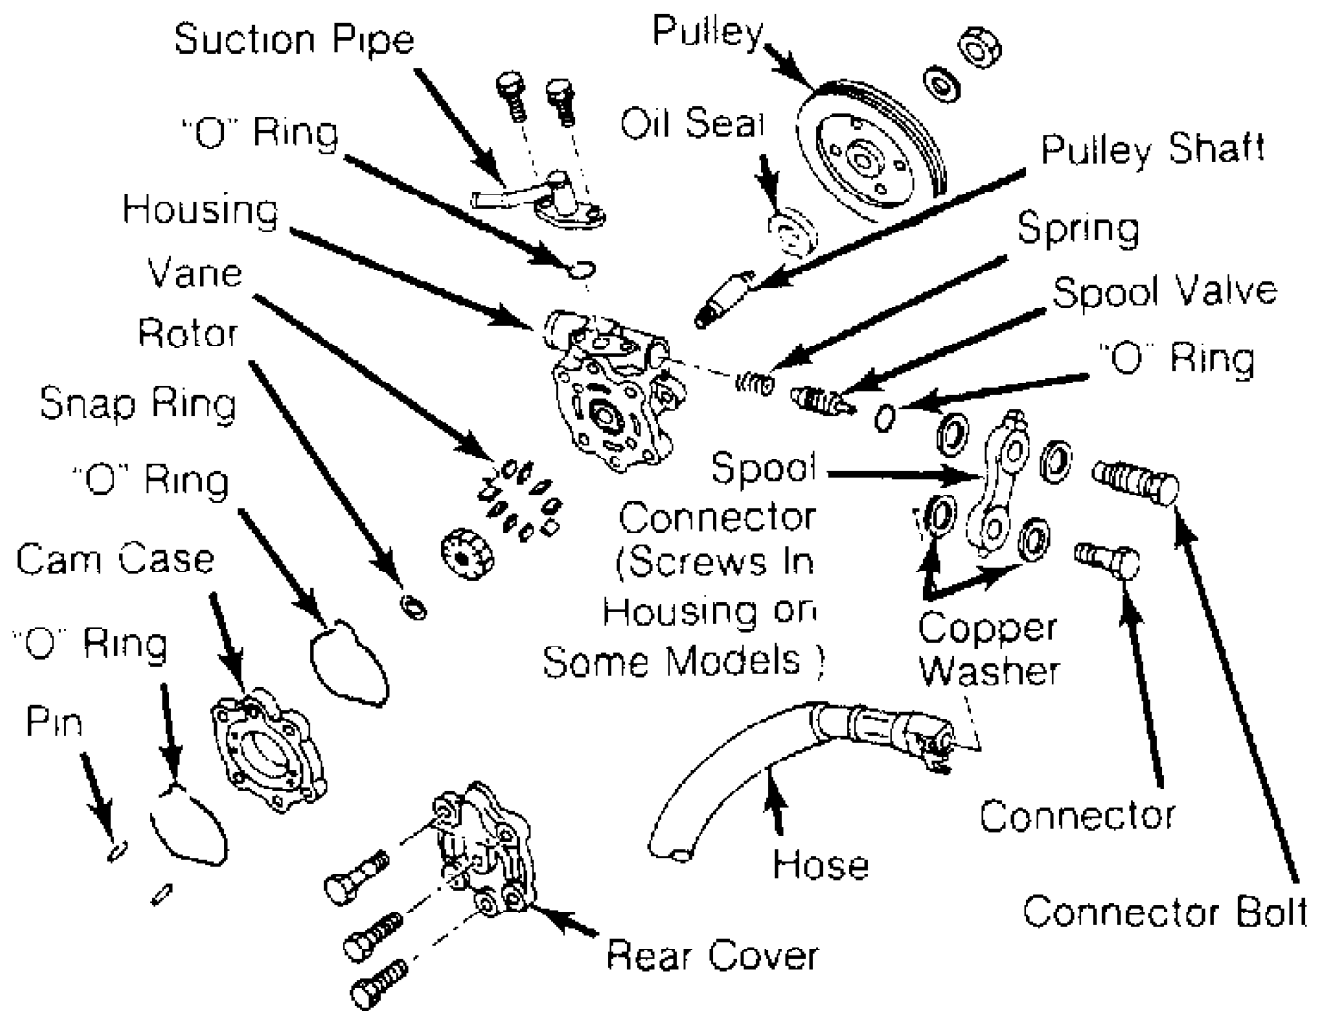

Fig. 7: Exploded View of Power Steering Pump (Axxess, Maxima, Stanza, 240SX & 300ZX)
6) On other models, remove rear pulley shaft snap ring. See Fig. 7. Remove pulley shaft. Remove cam case and "O" rings. Mark rotor and vanes for direction of installation. Remove rotor and vanes.